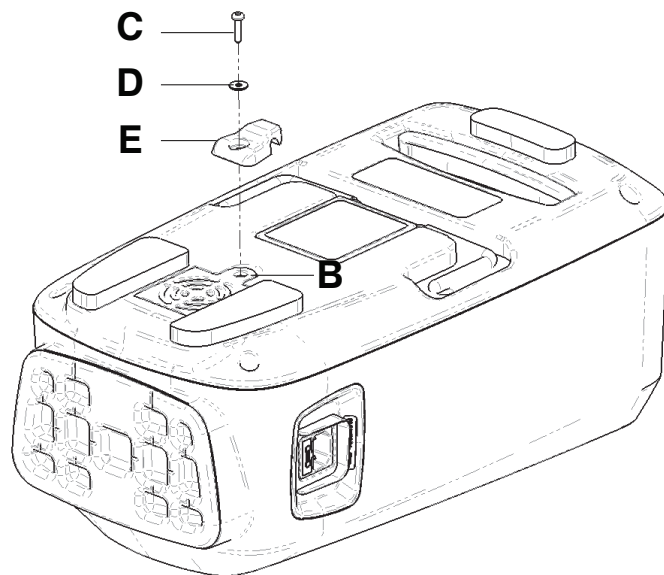

Figure 7 – Install the pump power cord p-clamp
5. Using a T20 Torx driver, install the supplied delta screw (C) (0023-162-000), flat washer (D) (2941-007-002), and power cord retention flex grip (E) (2941-007-004) to secure the air filter access door (B) to the back cover (Figure 7).